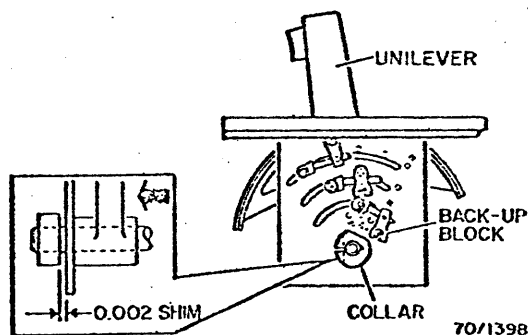

Fig. 3-34. Collar
1. Orient the flat of the collar as in Fig. 3-34, then set the gap between the collar and the stop plate to the dimension shown, using 0.002 shim stock. (Bias the unilever handle to the right.)